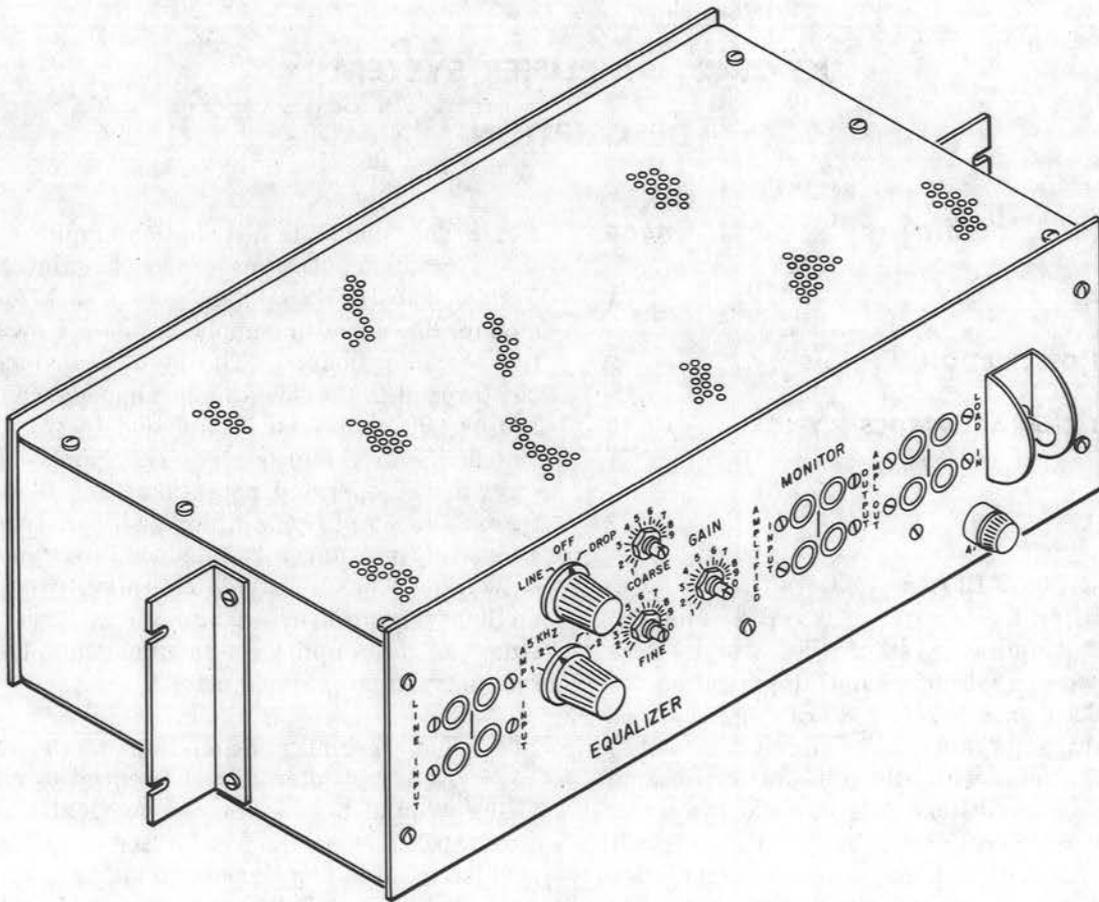
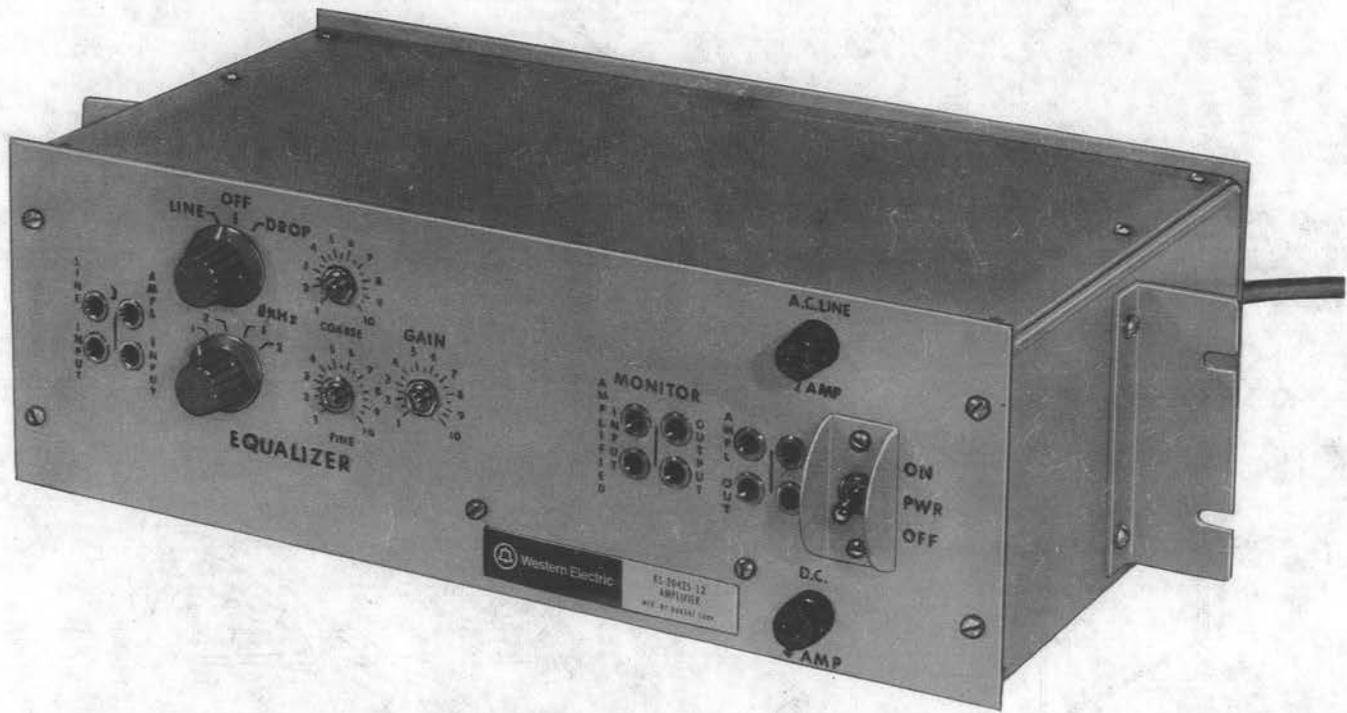

Fig. 1—KS-20425 L1 (Manufacture Discontinued) Amplifier System—Front View
Fig. 3—KS-20425 L2 Amplifier System—Front View
1.01 The KS-20425 L1 (Manufacture Discontinued) Amplifier System (Fig. 1 and 2) and the KS-20425 L2 Amplifier System (Fig. 3 and 4) are used to provide equalization and amplification for 5- and 8-kHz local program circuits utilizing nonloaded single or multigauge cables. The circuit is primarily intended to be used with ED-97065-30 distributing resistor panels for distributing musical programs to as many as 270 subscribers. Idle circuit terminations are not necessary when the installation serves less than 270 subscribers. Further detailed information concerning the KS-20425 Amplifier System may be found in SD- and CD-99528-01.
1.02 This section is reissued to add information on the KS-20425 L2 Amplifier System and to change Fig. 3 to 5 and to add new Fig. 3, 4, and 6. Since this reissue covers a general revision, arrows ordinarily used to indicate changes have been omitted.